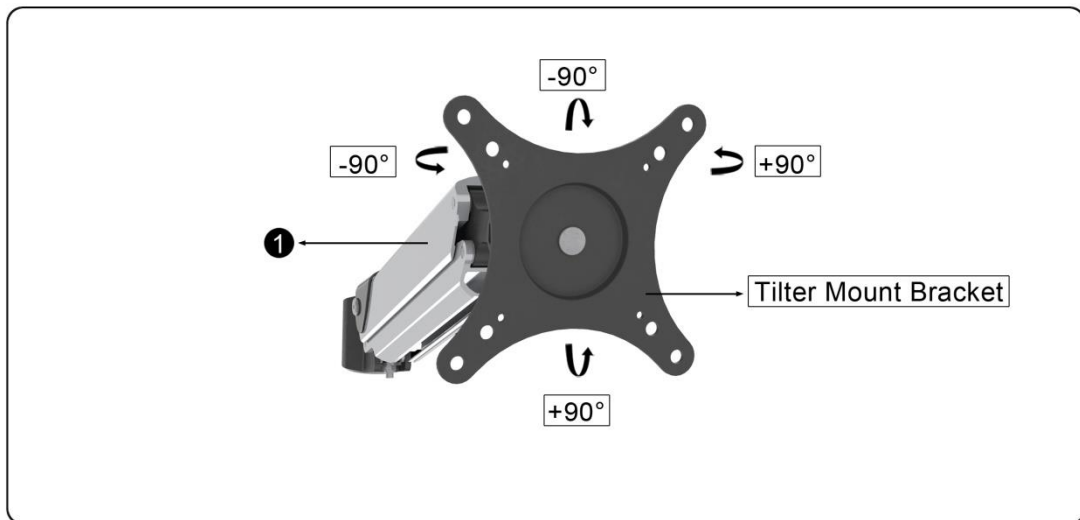

Figure 2-1
1. Ensure the VESA bracket can swivel and tilt easily (**See Figure 2-1**). If necessary, adjust the tension before proceeding to the next step.